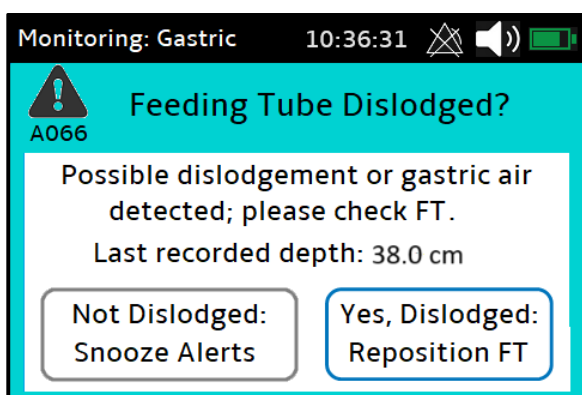

Figure 21: Minor Dislodgement Alarm
- **Minor Dislodgement Alarm (Gastric Mode only, Figure 21):** Monitor observes moderately high impedances suggestive of esophageal tissue contact at the tip of the feeding tube. These high impedances can also be caused by shallow gastric feeding tube placement and/or intermittent gastric air buildup during fasting periods; therefore, the user should visually inspect the feeding tube to confirm whether the feeding tube has moved from the last recorded depth. If the feeding tube appears to be positioned correctly, the user can choose the "Clear Notification" option and snooze further Minor Dislodgement notifications for 1 hour. Otherwise, if the feeding tube has retracted from the last known depth, the user should choose, "Yes, Dislodged"; the monitor will then instruct the user to insert back to the correct depth and conduct a Stomach Check to re-verify placement. If Minor Dislodgement alerts are disabled by the user, a shallow placement message is shown in the Placement screen instead (Figure 23).